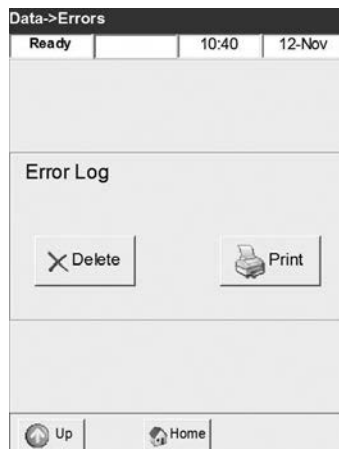

Fig. 7-53 Print or Delete Error Log
- Press  **Print** to print the error log (Fig. 7-53).